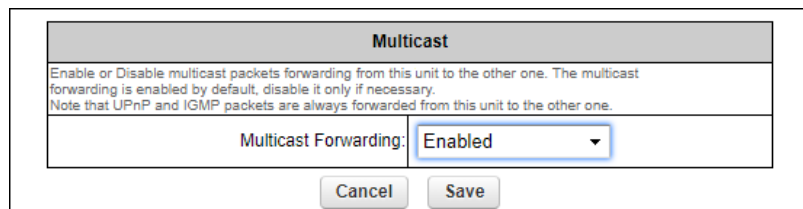

Figure 39. Multicast dialog (Bridge mode)
2. Click the **-multicast** link under **ADVANCED SETTINGS** in the left-hand settings menu (Figure 39 \(page 103\)).